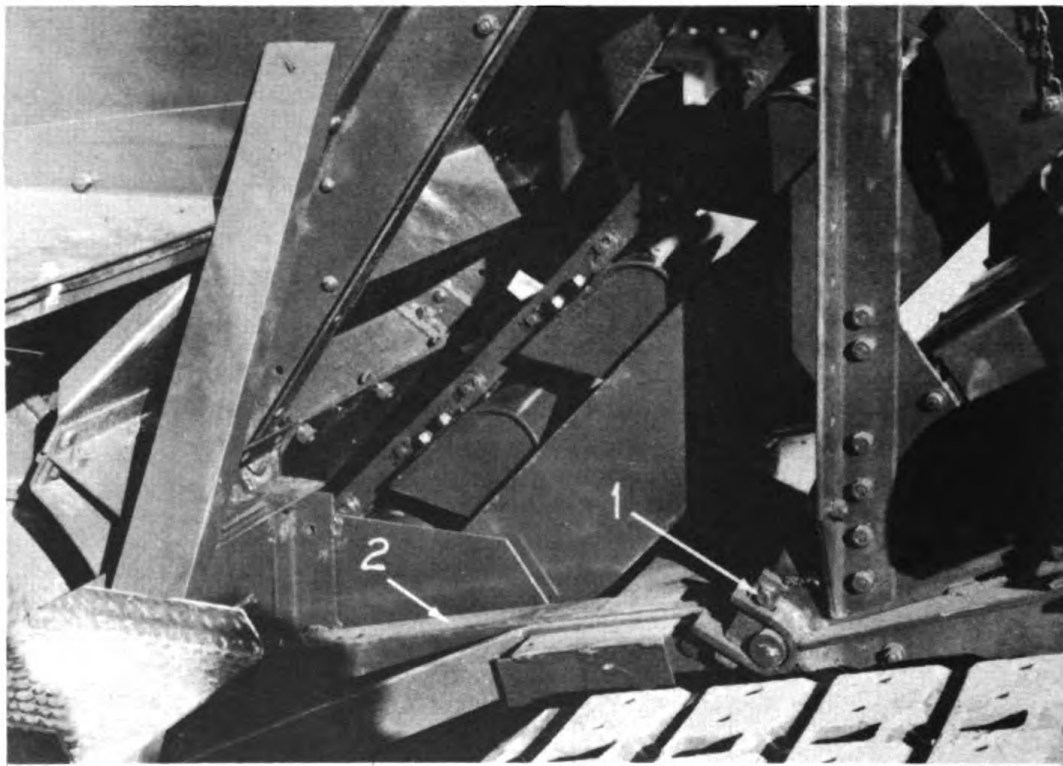

Figure 493
- (c) Remove pins (1) which secure push arms (2) figure 493 in "U" shaped brackets.